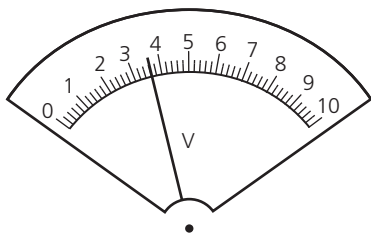

Figure 10
- a Write down the readings shown on the meters in Figures 10 and 11.